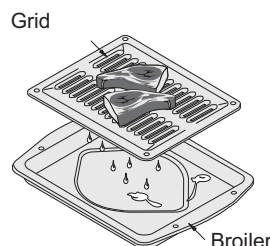

Figure 18: Broiler pan/insert
1. Arrange interior oven racks and place the broiler insert on the broiler pan, then place the meat on the insert. Remember to follow all warnings and cautions (Figure 18).